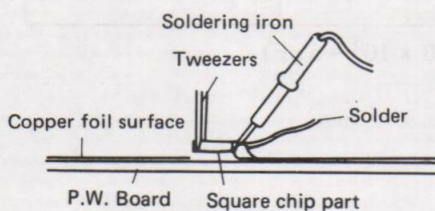

Figure 8
2. Pick up the square chip at the electrodes with a pair of tweezers, then place the chip on the copper foil surface and solder both electrodes. Refer to Fig. 8.